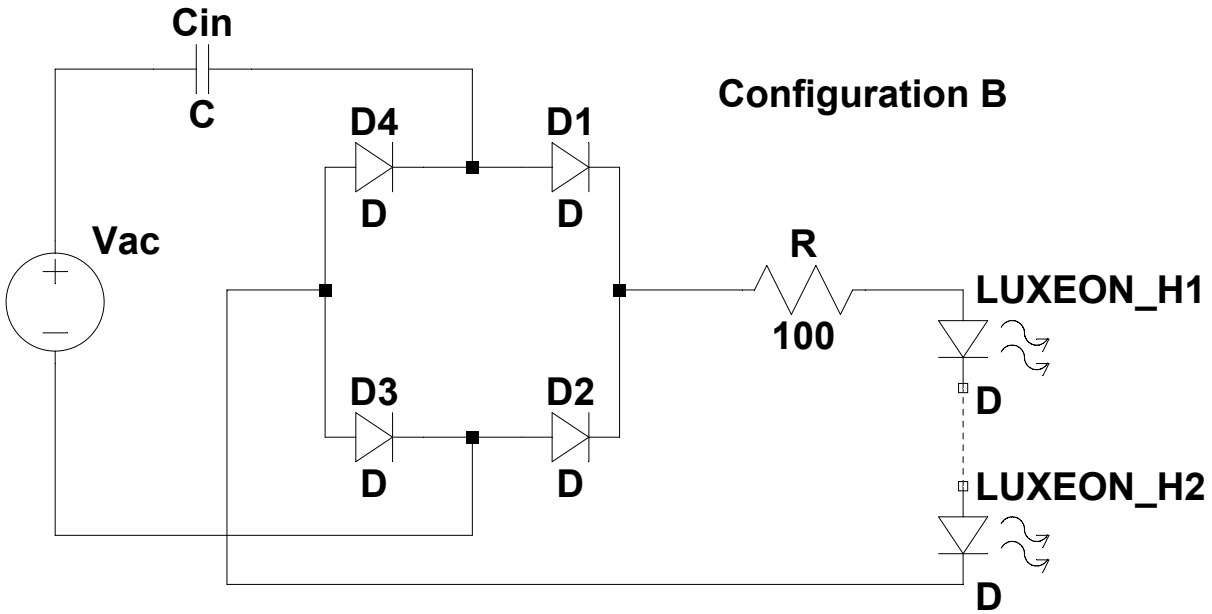

Figure 6. Configuration B, for use with Table 2.
2. Configuration B: Input capacitor and 100Ω resistor in series with LUXEON H LEDs (Figure 6)